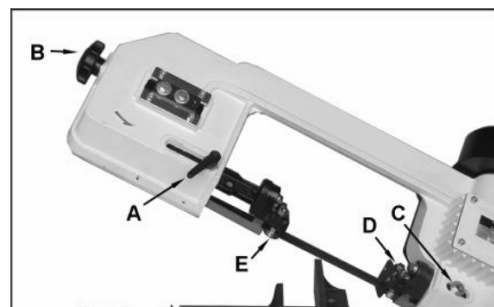

Fig 10
Loosen the indexable knob (A, Fig 10) and slide blade guide assembly (E) as close as possible without interfering the material being cut.